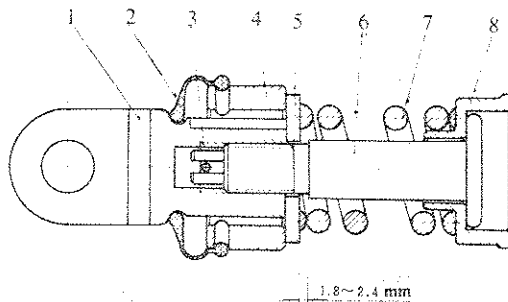

Fig. 5-10 Adjustment of draft control spring assembly
(1) For the adjustment of spring assembly of draft control system, see Fig. 5-10.